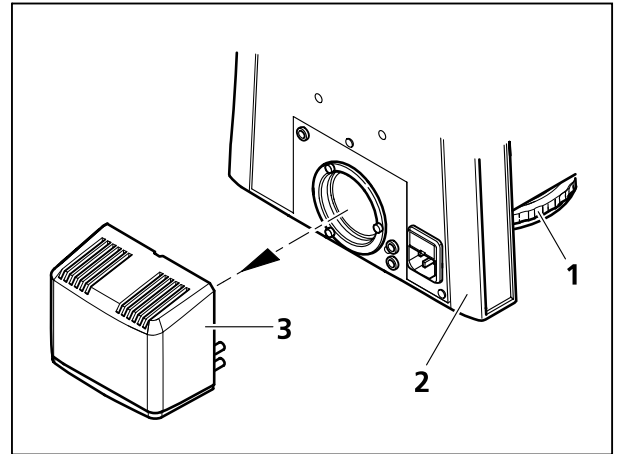

Fig. 3-21 Removing a halogen lamp HAL 50
- Remove the halogen lamp HAL 50 (Fig. 3-21/3) from the back of the stand (Fig. 3-21/2) and put it down with the open side facing up.
The intensity can be controlled with the control wheel (Fig. 3-21/1).